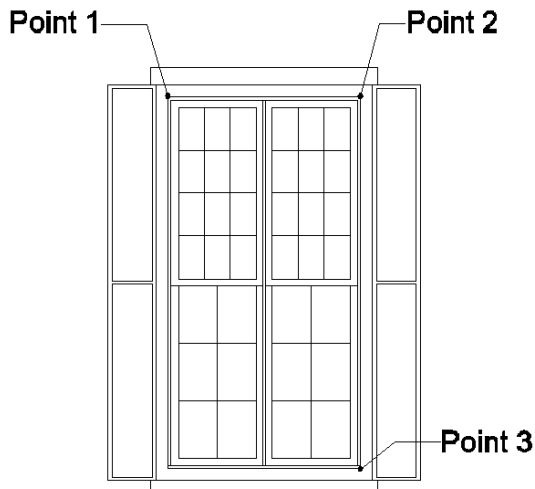

Figure 5-41: The window created with the **3_point** input mode.
So let’s change just the input method to see how this affects the way this window is defined and drawn (see Figure 5-41). Use the same settings as in the first example, but do the following:
8. *Click* in the Drawing Window and the window will be drawn complete, as in Figure 5-41 (this window was purposely drawn out of proportion to the first window we drew, for comparison purposes).